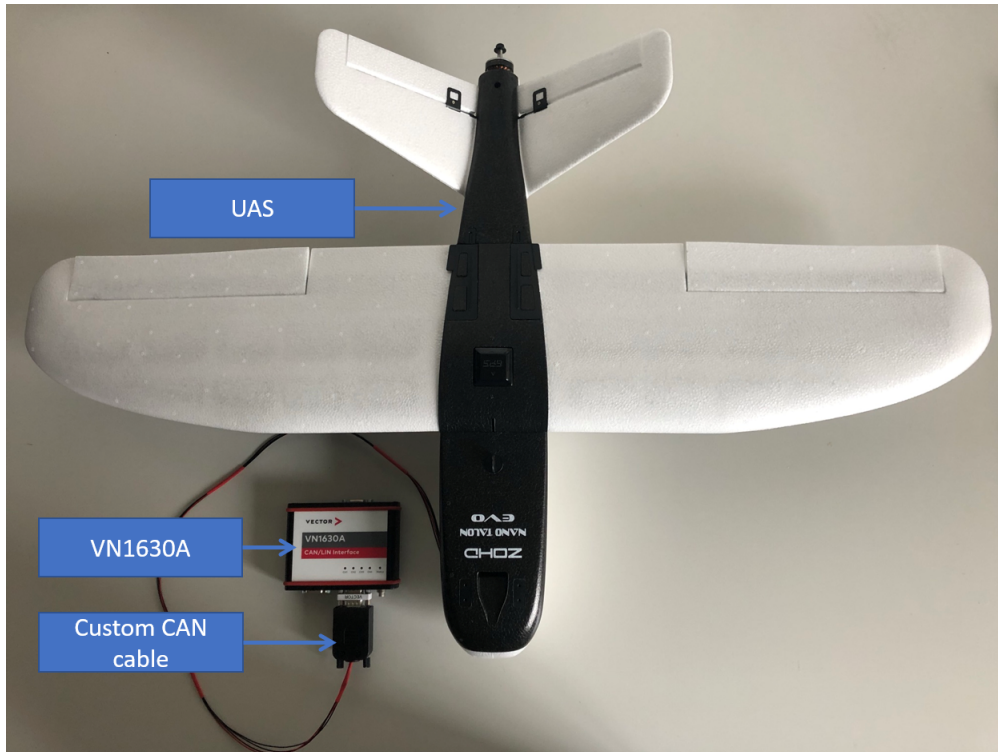
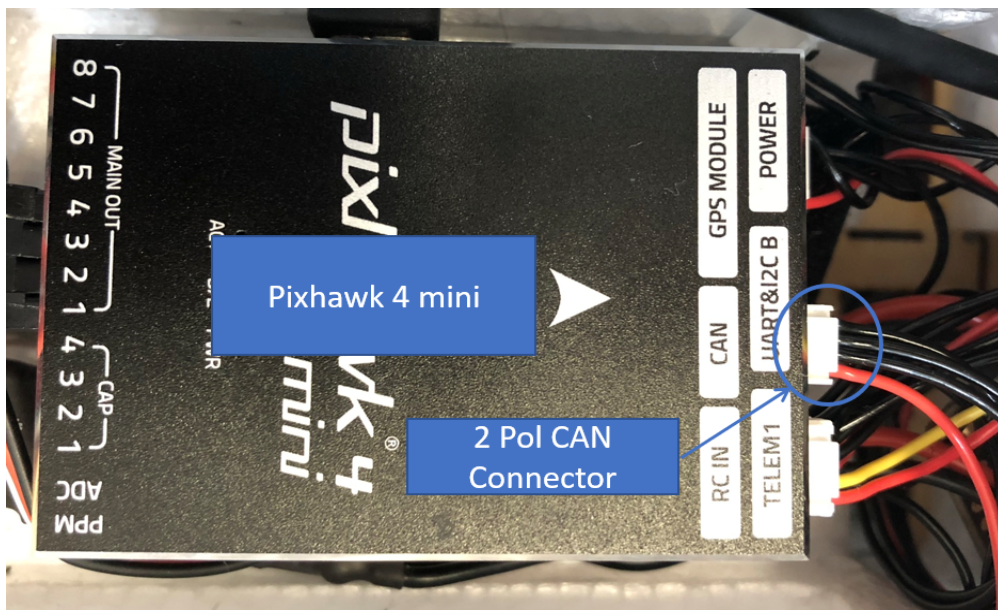
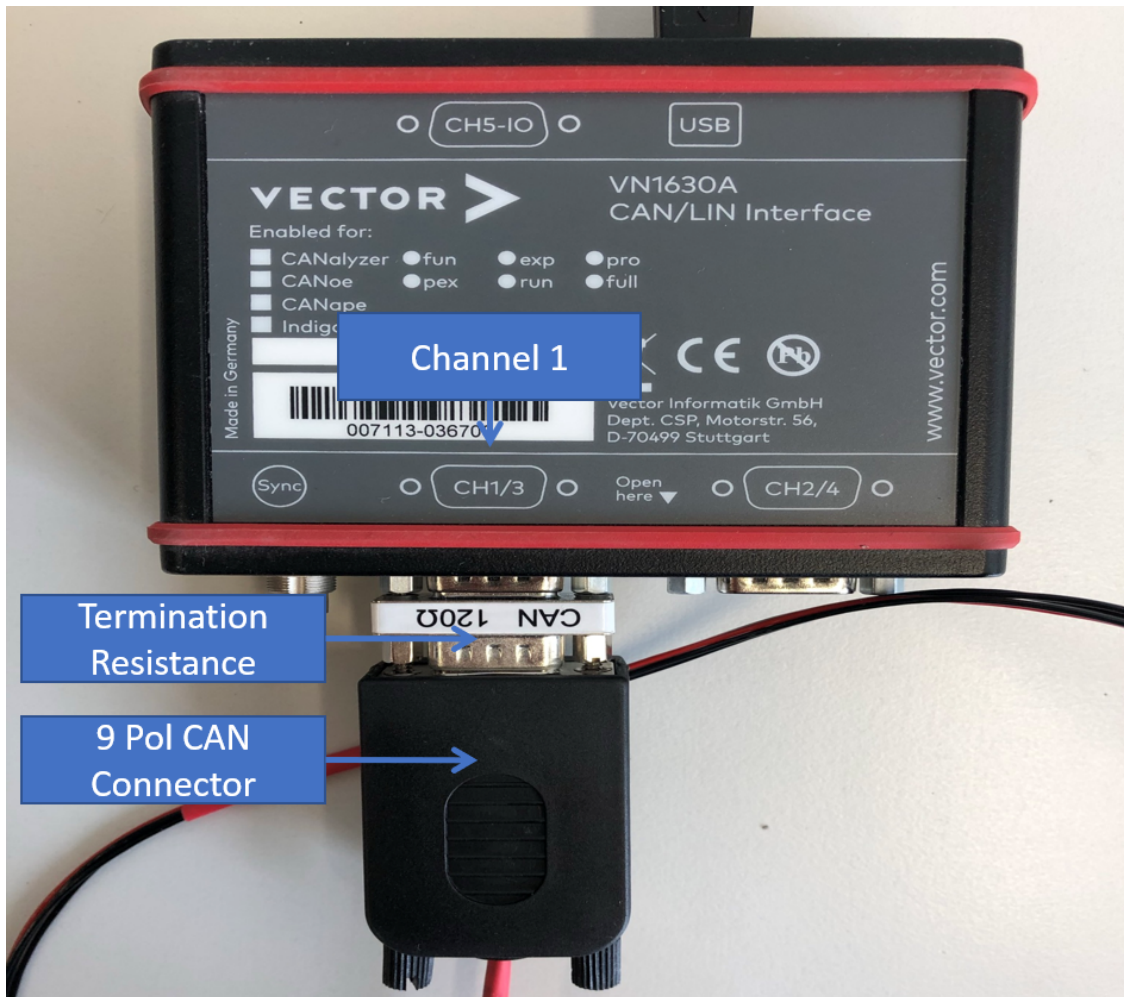

Figure 4: Setup for the CAN Communication.
Figure 5: Pixhawk inside the UAXS.
Figure 6: CAN Cable Connection to VN1630A. (VN1640A similar.)
3. Connect the aircraft and the Channel 1 port of VN1630A/VN1640A box through the custom CAN cable (see Fig. 4). To prevent the risk of disconnection, the cable is mounted inside the aircraft and already plugged in the corresponding Pixhawk interface (see Fig. 5).² Verify, that the termination resistance is between the VN1630A/VN1640A box and the custom CAN cable and that the cable is plugged in channel 1 (see Fig. 6).